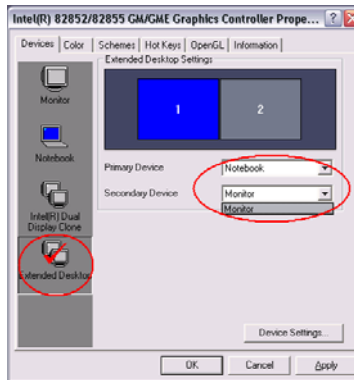

Figure B-2 Intel® 82852/82855 GM/GME Graphics Controller Properties
- Press **[Ctrl] + [Alt] + [F12]** keys to make **[Intel(R) 82852/82855 GM/GME Graphics Controller Prope...]** displayed. (See FigureB-2)
- Click  in the left of **[Devices]** tab (See FigureB-2), then select **[Extended Desktop]**.